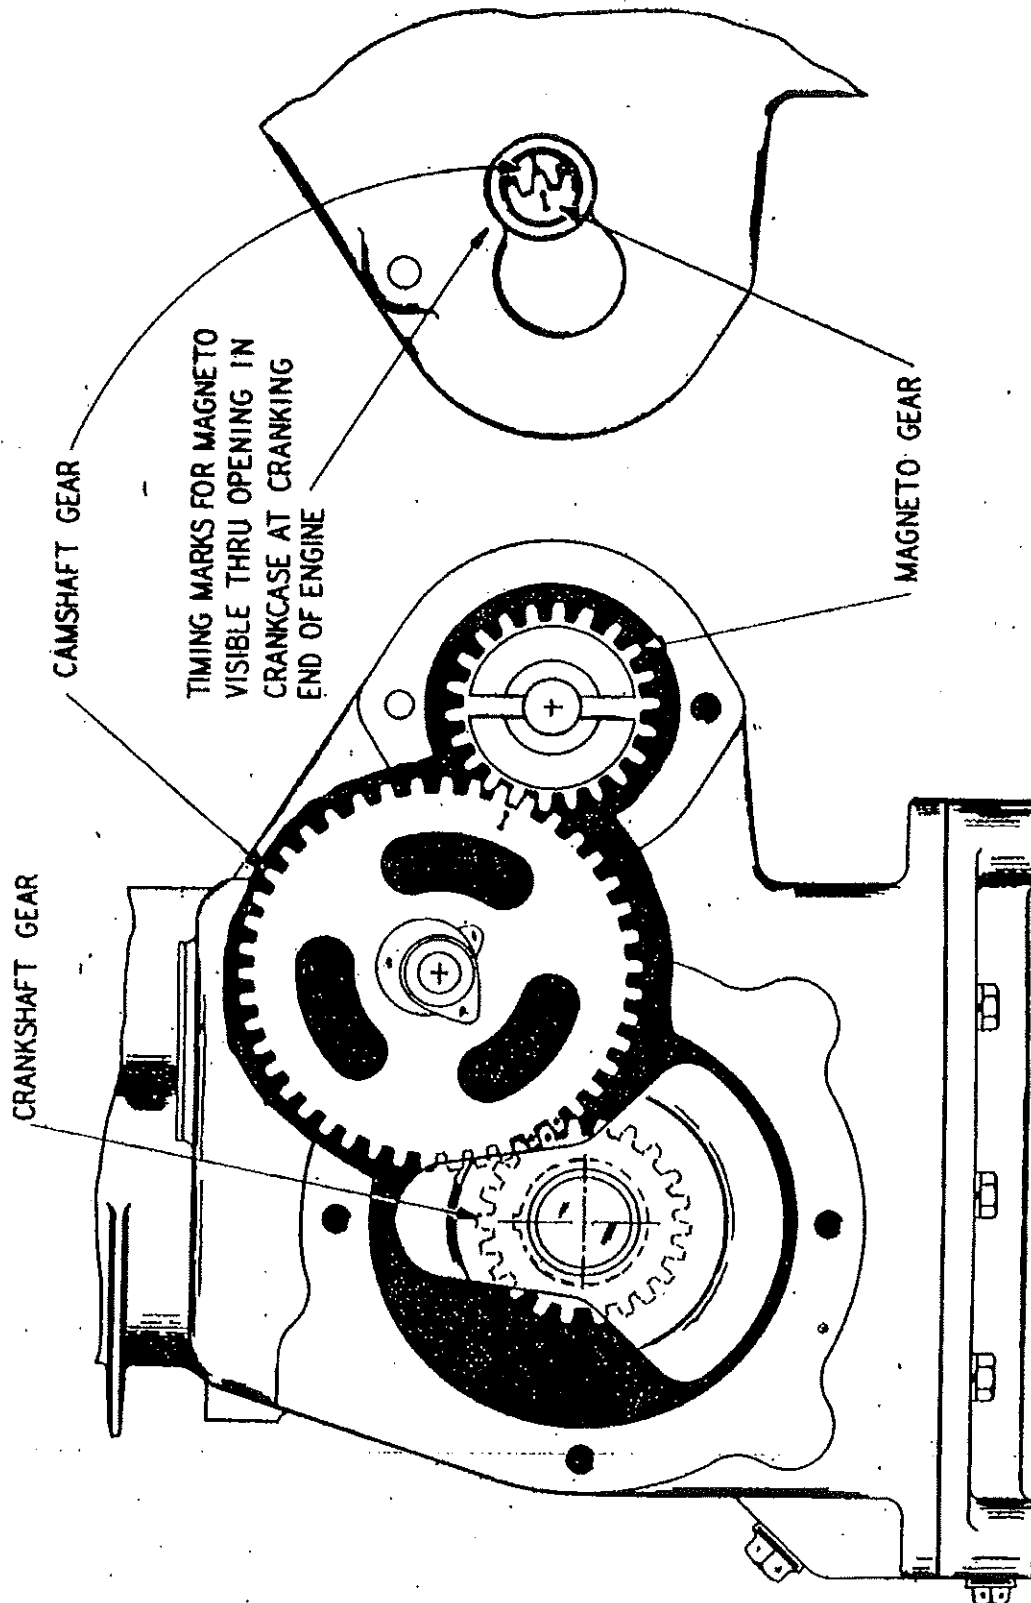

Fig. 52 - Timing Diagram.
time with the camshaft gear. In order to facilitate the proper assembly the gears are marked with a chisel mark and these marks must coincide to have the gears in time. In order to line up these timing marks, a peep hole is provided in the crankcase (see Fig. 52). The crankshaft should be turned over until the chisel mark on the camshaft gear is visible through the peep hole. The magneto should then be assembled so that the mark on the magneto gear is in line with the mark on the camshaft gear.
- (1) The crankshaft should be inserted into the crankcase and the main bearing plate replaced. The main bearing plate is fitted with shims to allow clearance for the main bearings. This clearance should be .002" to .004" with the engine cold.
- (2) When meshing the crankshaft gear with the camshaft gear care must be taken that the timing marks line up. The crankshaft gear is marked with a punch mark on one of the teeth. This mark must be placed between the two punch marks on the camshaft gear. (see timing diagram Fig. 52)